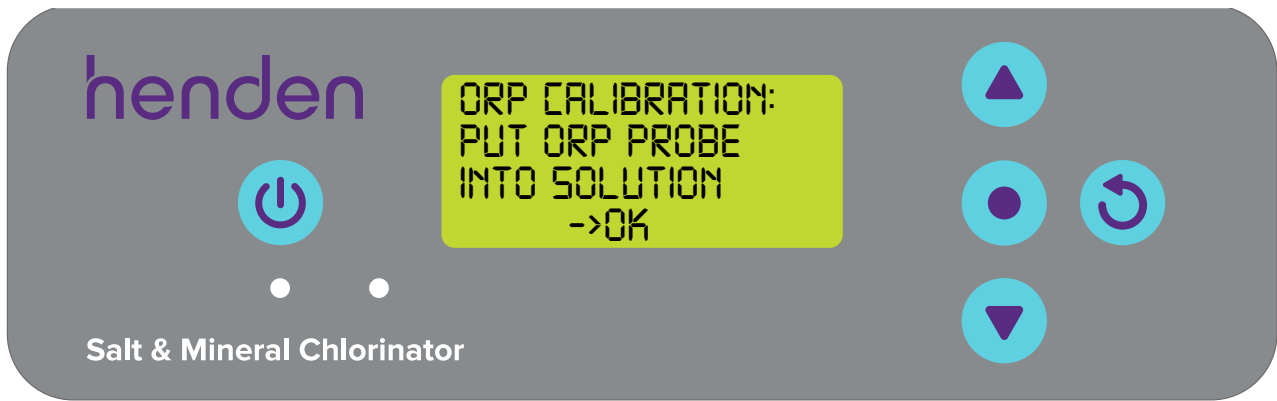

Figure 6.19
- If you've chosen to use the ORP probe, the next screen will instruct you to put the ORP probe into the ORP solution (ref Figure 6.19)